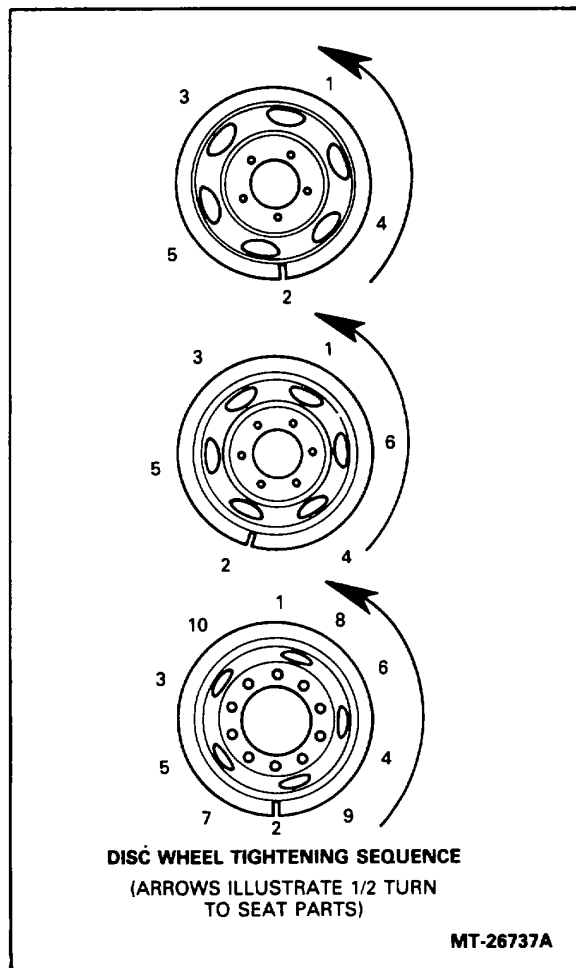

Figure 40. - Disc Wheel Tightening Sequence
3. Draw up stud nuts alternately following the sequence (crisscross pattern) illustrated in Figure 40. Do not fully tighten the nuts at this time. This procedure will allow a uniform seating of nuts and insure the even face-to-face contact of wheel and hub.
4. Continue tightening the nuts to the torque specifications in the Torque Chart using the same alternating method shown in Figure 40.
4. Draw up nuts alternately following the (crisscross) sequence Illustrated in Figure 40. Do not fully tighten nuts at this time. This will allow uniform seating of nuts and assure even face-to-face contact of wheel and hub.
5. Continue tightening the nuts to torque specifications in the Torque Chart using the same alternating sequence shown in Figure 40.